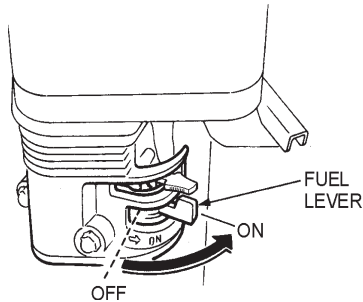

Figure 11. Fuel Valve Lever
1. Place the **fuel valve lever** (Figure 11) in the "ON" position.
- Place the **fuel valve lever** (Figure 11) in the **"OFF"** position.